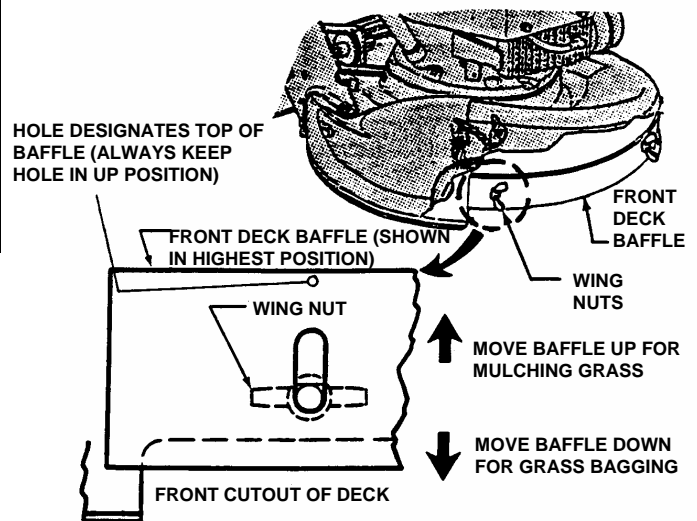

FIGURE 2.9
2. Loosen wing nuts that secure front deck baffle. See Figure 2.9.
3. Lower the adjustable baffle to the lowest position when using a grass bag. Raise the baffle to its highest position when mulching grass. Take care to keep the baffle's lower edge parallel to the bottom of the deck. See Figure 2.9.